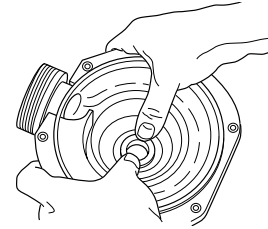

Figure 6
- Ceramic seat must be clean and free of dirt, grease, dust, etc. Wet rubber cup gasket of ceramic seat with **small** amount of water; press into cavity firmly and squarely with finger pressure (Figure 6).